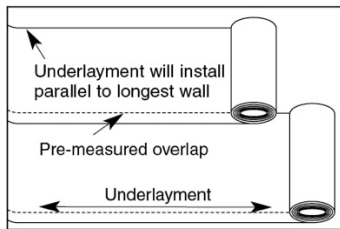

Figure 12
- The floating floor underlayment may already have double-sided tape for ease of taping the precut overlapping seams (Figure 12). If a non-adhesive underlayment is used, tape all seams with the included tape.